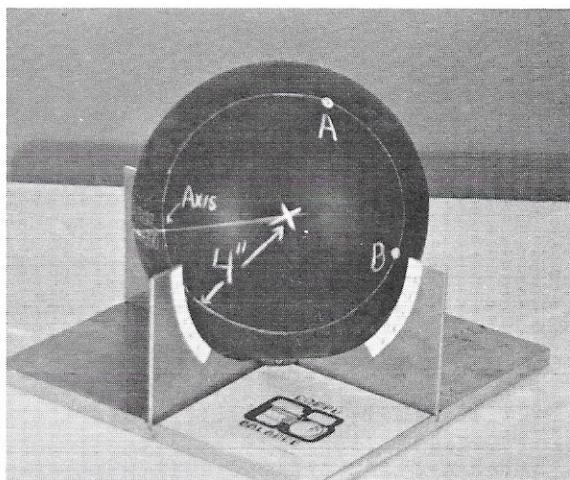
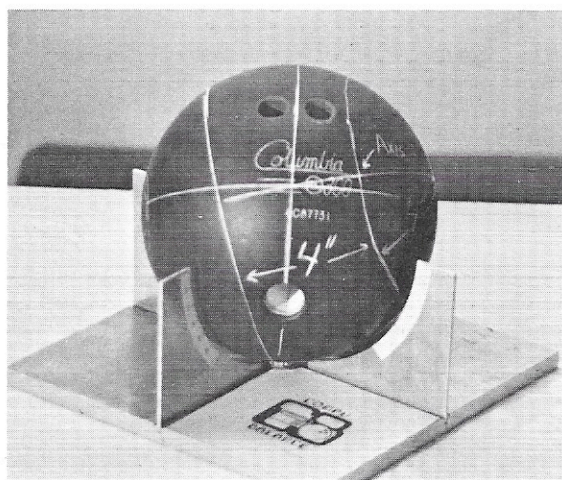

Figure 3
Figure 4
3. Use the arc maker to draw an arc from the axis point through the center-of-palm to the track as shown in Figure 4.
Another potential problem is illustrated in Figure 3. If the new ball does not have enough label weight before drilling, the center of gravity might end up on a line through the center of the ball and point A or point B or some point on or near the circle between A and B. The resulting ball will have bottom weight and may roll up on the thumbhole.
For starters, we recommend locating the center of gravity on a line through the point labelled "AXIS" in Figure 3 and Figure 4. If you do not own a CompuBalance System, you can use your experience to approximately locate the center of gravity in this location. Good luck! If you do own a CompuBalance System, this mailing should include an extra page that tells you how to easily locate the center of gravity at this desired point.